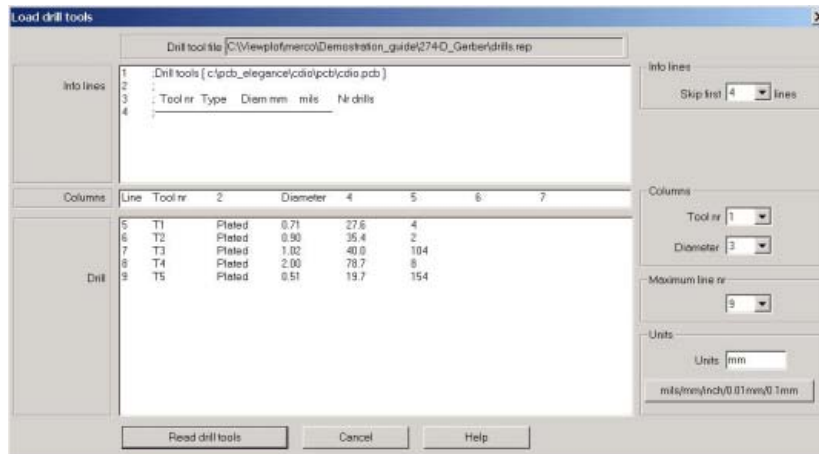

Figure 14: Load Drill tools Assistant window
10. Adjust the "Load drill tools" window (as shown in Figure 14) and hit the "Read drill tools" button. **5 drill tools have been found** as reported by a message box.